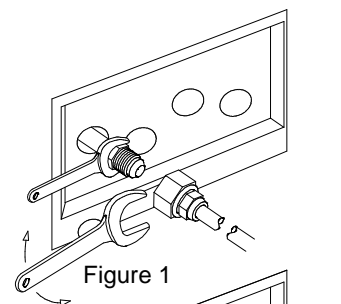
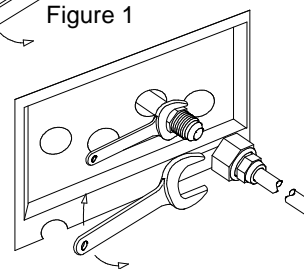

Figure 1
Figure 2
- Connect the specific line to the on-off valve using two spanners as shown figure 1 for the first circuit, Figure 2 for the second).